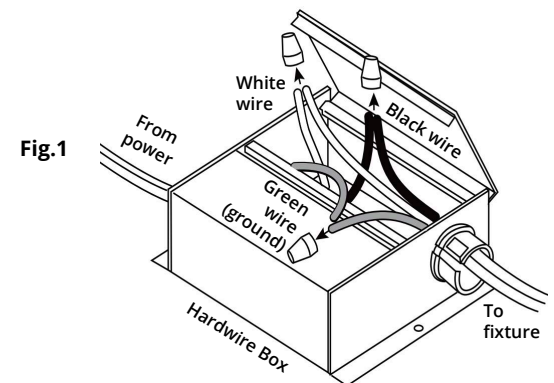

Fig.1
3. Using wire nuts, connect GREEN ground wire of cable to GREEN wire on box. Connect WHITE wire of cable to WHITE wire of box. Connect BLACK wire of cable to BLACK wire of box (see Fig.1 on the right)